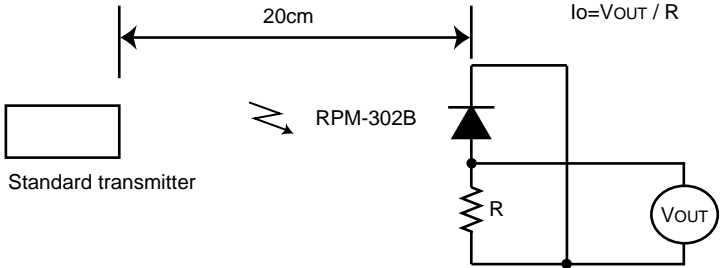

Fig.2 Measurement of standard transmitter proofreading
When standard transmitter output the signal at Fig.1 standard photodiode output become  $I_o=5\mu\text{Ap-p}$  under the measurement condition Fig.2.
- (1) All characteristics of the receiver in this specification are specified by supplying burst wave form with ROHM standard transmitter (Fig.2).